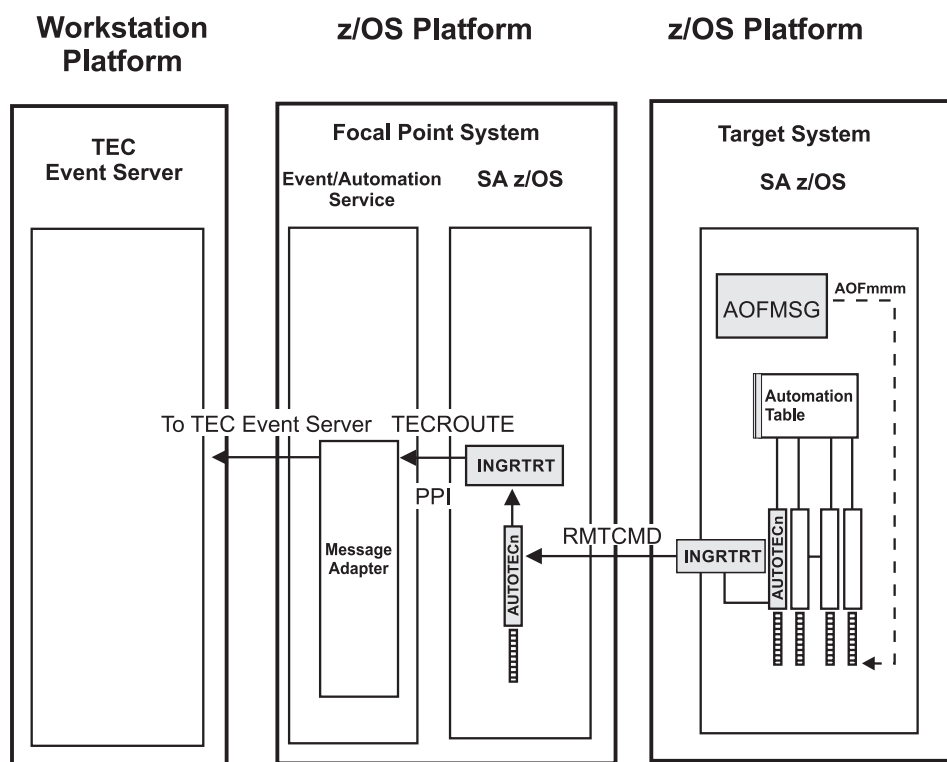

Figure 7. Distributed Configuration: NetView Event/Automation Service Remote to the SA z/OS Source of Messages
- **Distributed Configuration:** The message adapter or alert adapter is running on an z/OS system different from the one on which SA z/OS is running and issuing messages and alerts. In this scenario, the z/OS system running the adapters must be the SA z/OS automation focal point system. Such a configuration for message forwarding is illustrated in Figure 7 on page 47.